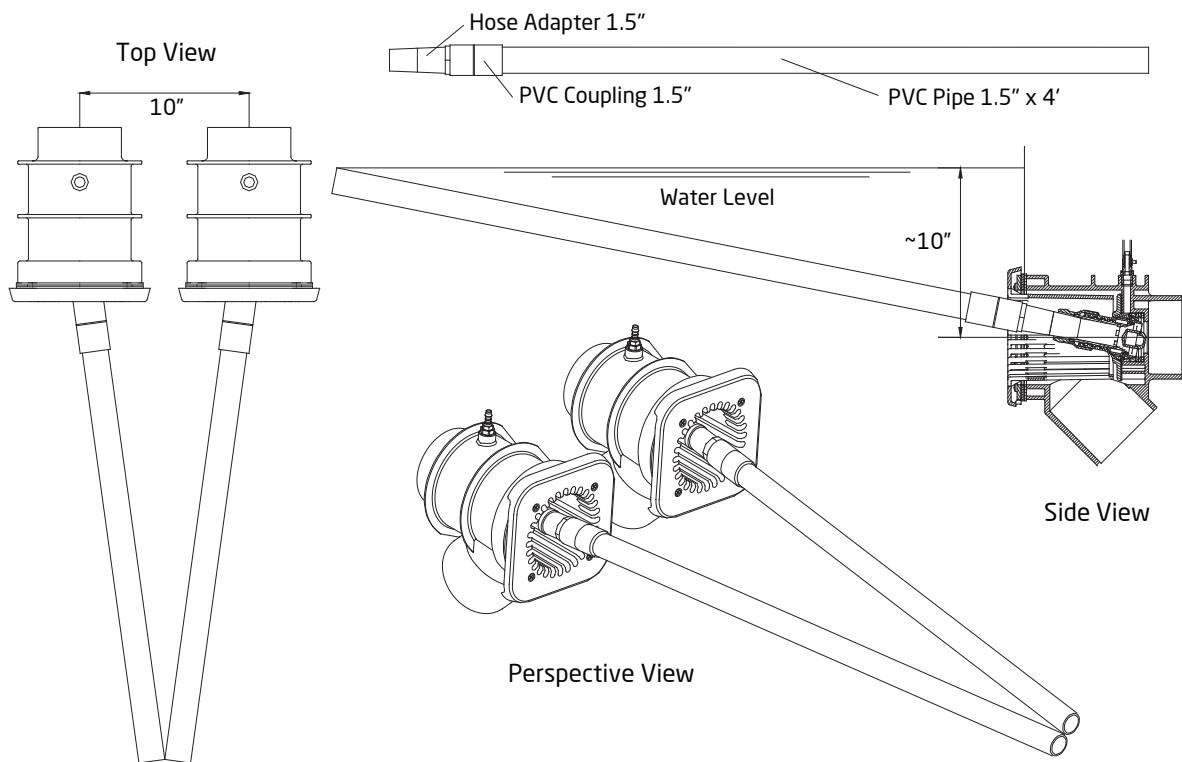

Figure 16
4. Bring the ends of the adjustment tools together so they are touching in between the jet housings. Then raise the tools together so the ends touch the water surface. (See Figure 16)